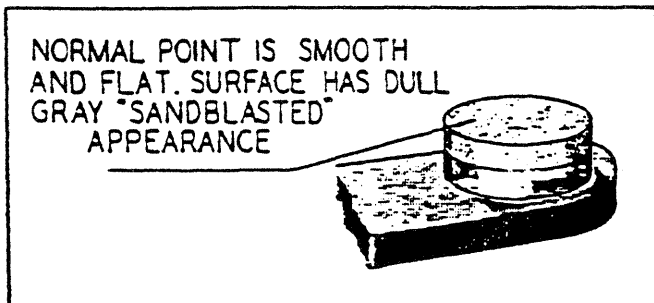

Figure 602. Normal Contact Point
- C. Examine contact points for wear or burning. Contact assemblies (39) with points which are deeply pitted or burned must be discarded. Figure 602 shows how the average contact point will look when surfaces are separated for inspection. Normal contact surfaces have a dull gray, sandblasted (almost rough) or frosted appearance, over the area where electrical contact is made. This means that points are worn in and mated to each other, thereby providing the best possible electrical contact and highest efficiency of performance. Replace burned, pitted, peaked or otherwise damaged contact assemblies.